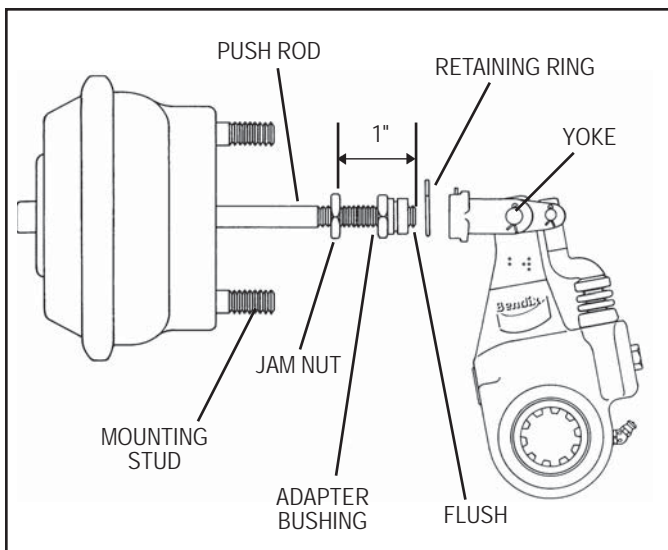

FIGURE 4 - QUICK-CONNECT YOKE ASSEMBLY
The adapter bushing in this case is threaded internally to match the push rod, but is designed to slide into the yoke. A retainer ring is used to secure the adapter bushing in the yoke. (Refer to Figure 4.)
4. If the ASA-5® slack adjuster has the quick connect yoke (see Figure 4), position the brake actuator push rod jam nut approximately 1 inch from the end of the brake actuator push rod. Thread the quick connect adapter bushing on the brake actuator push rod until it is flush